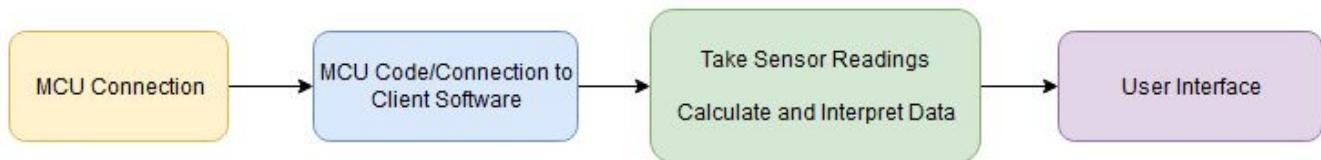

Figure 4 - Software Block Diagram
- Reference Figure 4 below for basic design outline.